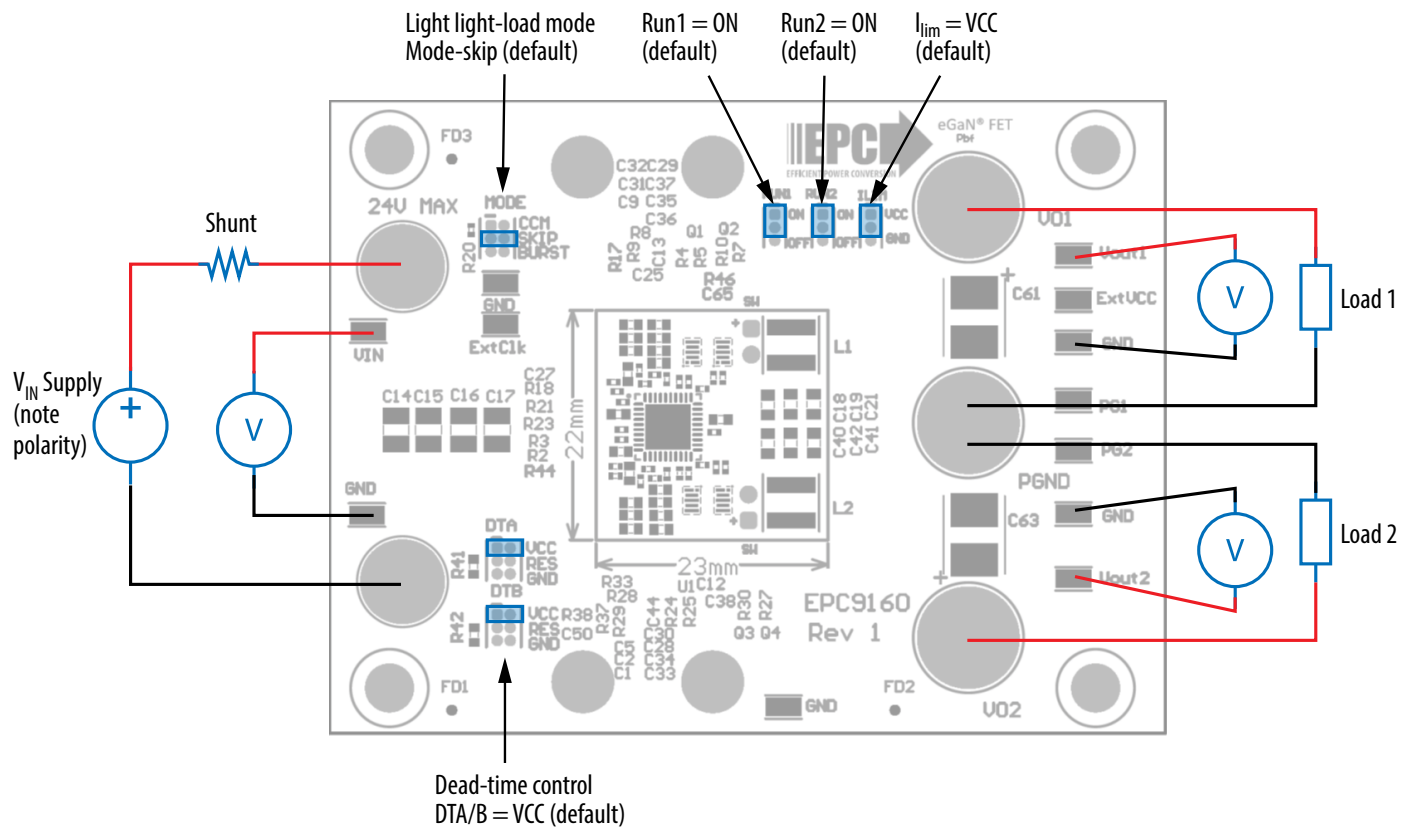

Figure 1: Proper connection set up and default jumper positions
The evaluation board EPC9160 is easy to set up to evaluate the performance of the EPC2055 eGaN FETs and directly drive from the controller IC. Refer to figure 1 for proper connect and measurement setup and follow the procedure below:
1. Check if the jumpers are at its default location as shown in figure 1.
3. With power off, connect a programmable load as needed between Vout1 and/or Vout2 (J4 and J8) and GND (J18) as shown in figure 1.